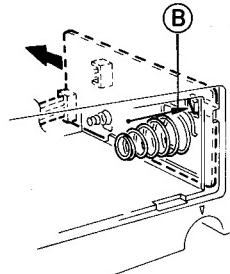

Fig. 7-10
3. Remove the screw ⑪ retaining the [+] battery contact P.C. board.
4. After turning back the body, dismount the battery cover. Next, remove the clow B retaining the [-] battery contact P.C. board, and draw it out to the front side (refer to Fig. 7-10).